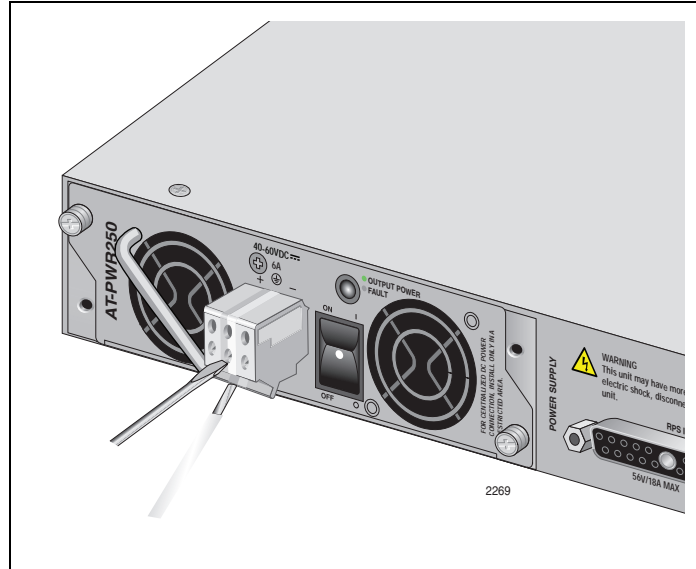

Figure 73. Inserting Wires into a DC Terminal Block
5. Insert the power supply ground wire into the middle connector of the DC terminal and tighten the connection with a flathead screwdriver, as shown in Figure 73 on page 105.